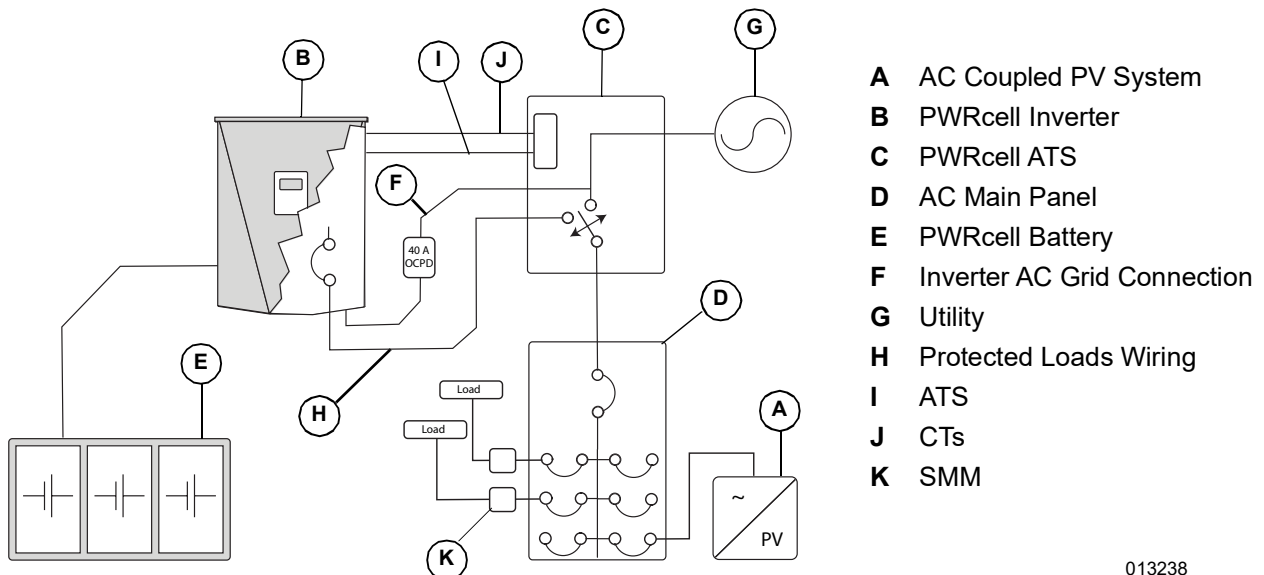

Figure 5-11. AC-Coupled PV
1. See Figure 5-11. Land service entrance conductors at the 'N' terminals of the PWRcell ATS.